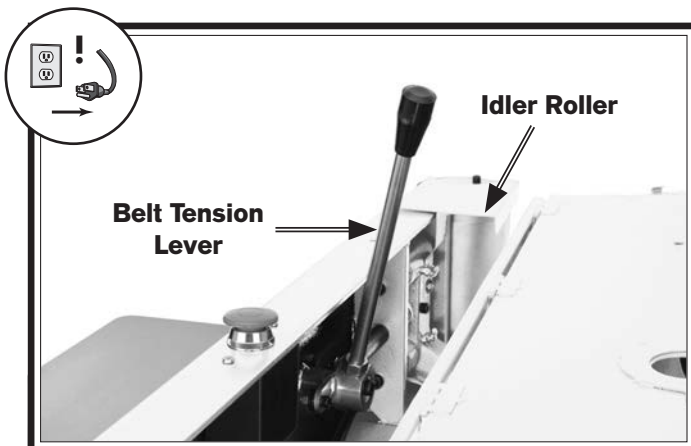

Figure 37. Belt tension lever in un-tensioned position.
6. Move belt tension lever up and toward idler roller as shown in **Figure 37**.